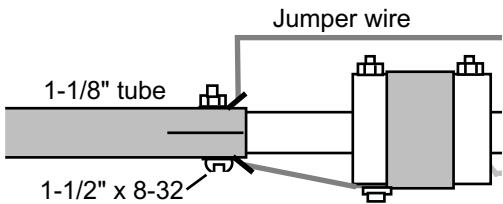

Figure-13: Resonator Installation Detail
- [] Slip the resonator tube inside the top of 1-1/8" radiator tube BE (Figure-13).